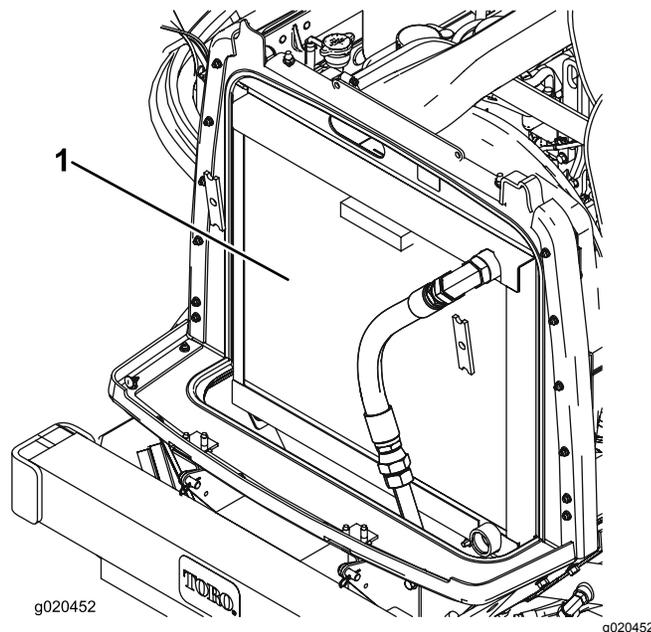

Figure 90
3. Clean both sides of the radiator/oil cooler area thoroughly with compressed air (Figure 90).